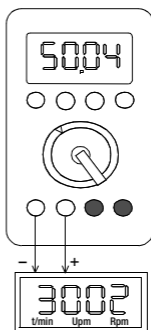

Figure 17 Connection of the Test Leads
- Set the functions selector (6) to „□□□□“.
- Connect the item under test by means of test leads as shown in Figure 17.